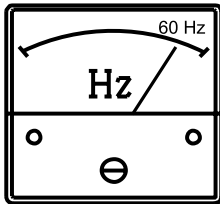

Figure 33. Frequency Meter
- The generator's frequency meter (Figure 33) should be displaying the 60 cycle output frequency in **HERTZ**.